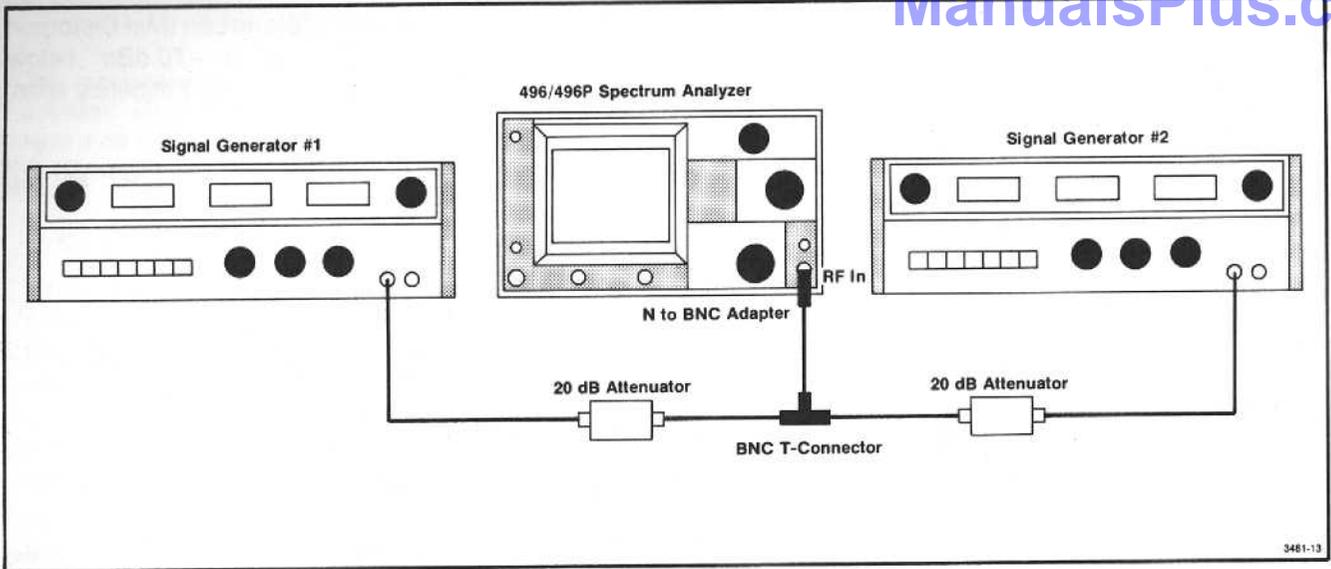

Fig. 3-13. Test equipment setup for measuring intermodulation distortion.
b. Apply two signals from two  $50 \Omega$  sources, separated about 2 MHz. Apply the signals through 20 dB attenuators (for isolation), a bnc T connector, and bnc-to-n adapter, to the 496/496P RF INPUT (test equipment setup is shown in Fig. 3-13).